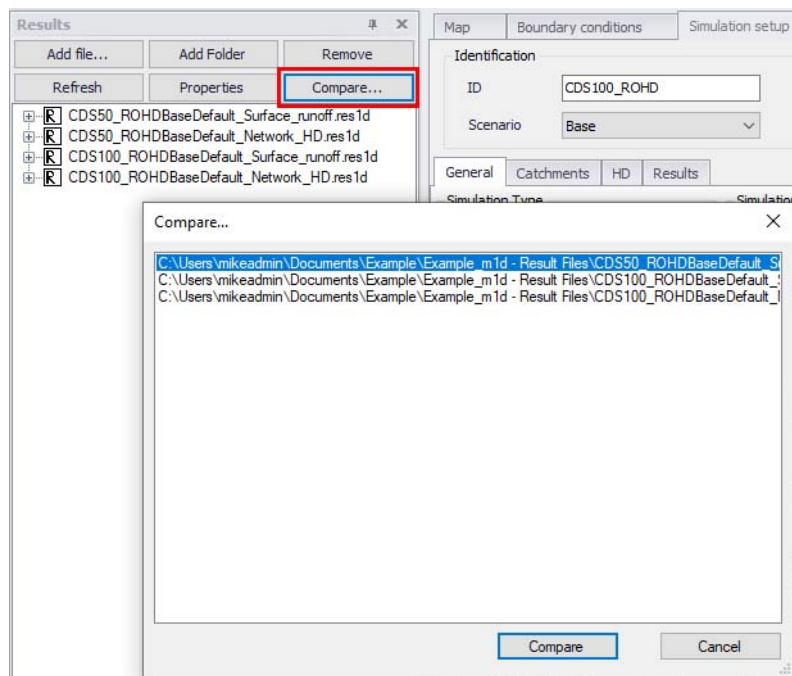

Figure 20.103 Loading result files for comparison of results
- Select one of the result file layers (i.e. File A) on the Results manager, and click on the ‘Compare...’ button at the top of the panel (Figure 20.103). This will launch a dialog listing other loaded result file layers available for comparison with the currently-selected layer.